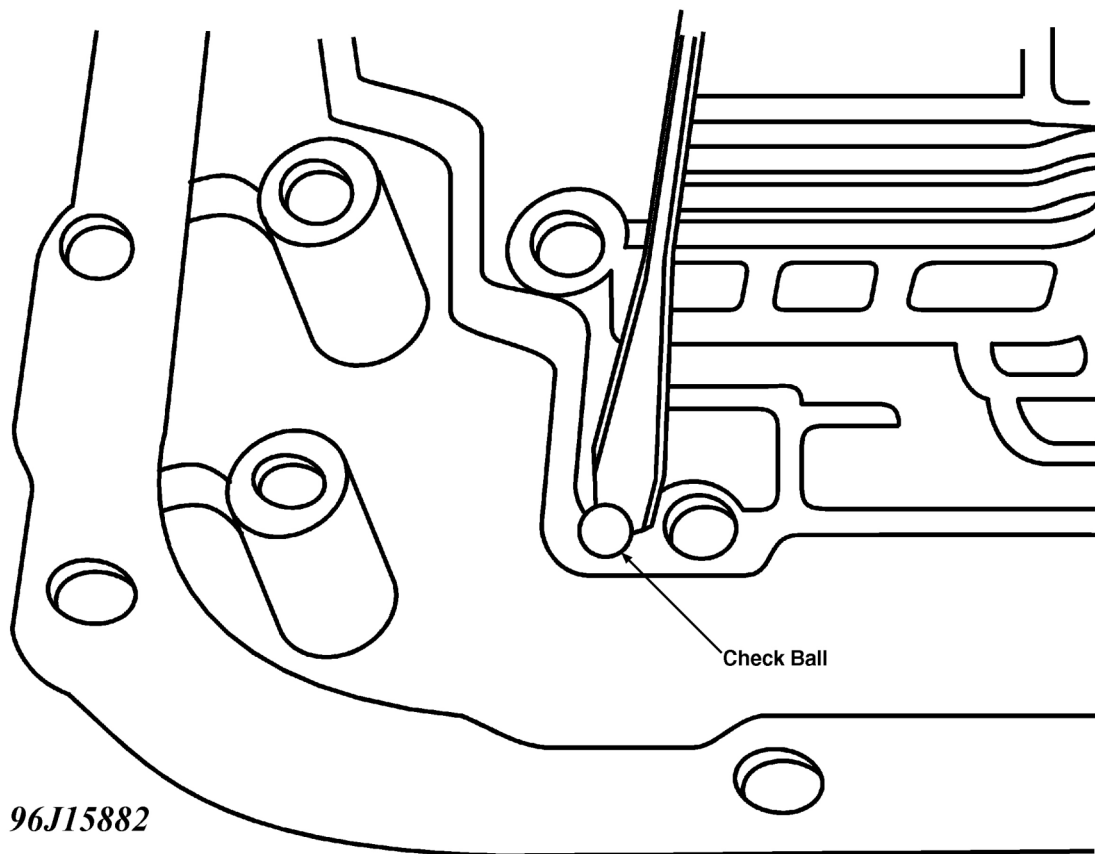

Fig. 5: Removing Check Balls From Case
7. Remove 9 check balls from the core passages in the case. See **Fig. 5** and **Fig. 41**. Remove governor cover and gasket from case. Remove governor assembly while rotating output shaft counterclockwise to ease